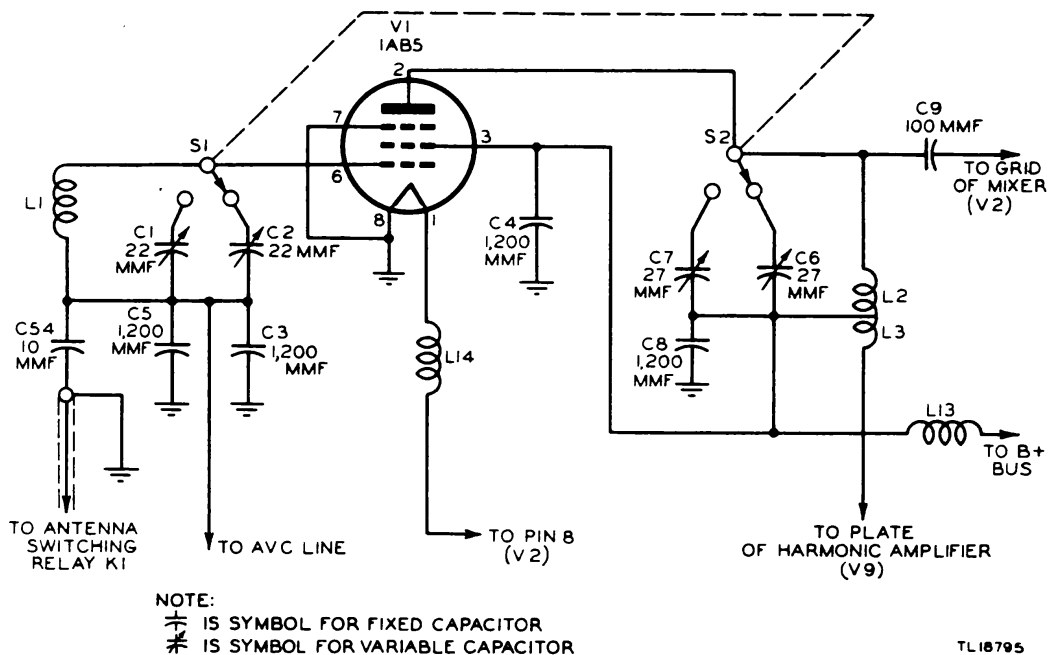

Figure 50. Receiver r-f amplifier.
a. The receiver r-f amplifier (fig. 50) increases the amplitude of the received signal before it is applied to the mixer. It also improves the selectivity of the receiver by providing an additional circuit which is tuned to the frequency of the desired signal. Unwanted signals are thus rejected to a large extent before reaching the mixer.
c. The amplified signal is developed across the plate load impedance which consists of coil L2 and capacitor C6 or C7 in parallel. The setting of the CHANNEL SELECTOR switch determines which capacitor is used to tune the plate circuit. Coil L2 is part of a double coil, the other part is L3 (fig. 50) which is the plate load for the harmonic amplifier. Thus the signal from the harmonic amplifier is also present across coil L2. Plate voltage for tube V1 and harmonic amplifier tube V9, as well as screen voltage for tube V1, is applied through r-f choke L13 which isolates the plate supply from radio frequency in the plate circuits. Capacitor C8 bypasses radio frequency in the plate circuits and capacitor C4 is the screen bypass for tube V1. Filament current is supplied to tube V1 through choke L14 which prevents radio frequency from appearing in the filament supply.